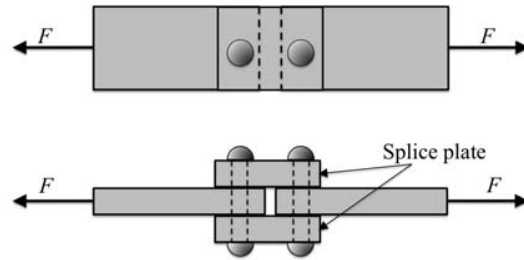

Figure 1
1. Two 40 mm wide and 15 mm thick flat plates are loaded in tension. They are joined using two rectangular splice plates of same width and thickness as the plates and two 10 mm diameter rivets as shown in Figure 1. The factor of safety against any of the ultimate load that can be carried is 2.5. The ultimate strength in tension for the plate and splice material is 400 MPa. The ultimate strength in shear of the rivet material is 170 MPa.